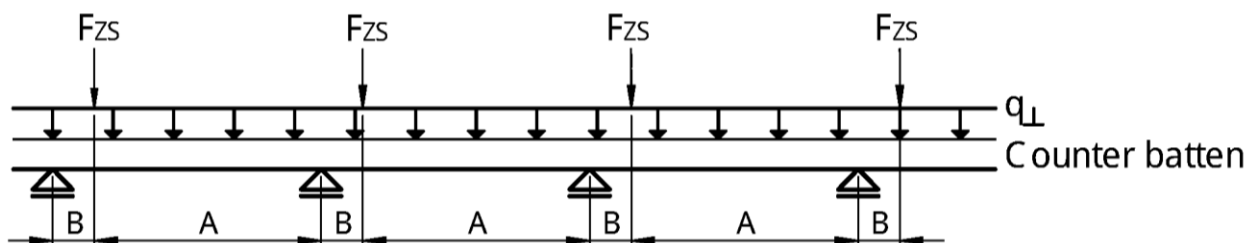

Figure A.7.5: Continuous batten under constant line loads from actions on the roof plane q_{\perp} and concentrated loads from tensile screws F_{ZS}
- A distance of the screws according to Figure A.7.5
B distance of the alternatively inclined screws according to Figure A.7.5
A positive value for $F_{ZS,k}$ means a load towards the rafter, a negative value a load away from the rafter. The system of the continuous beam is shown in Figure A.7.5.